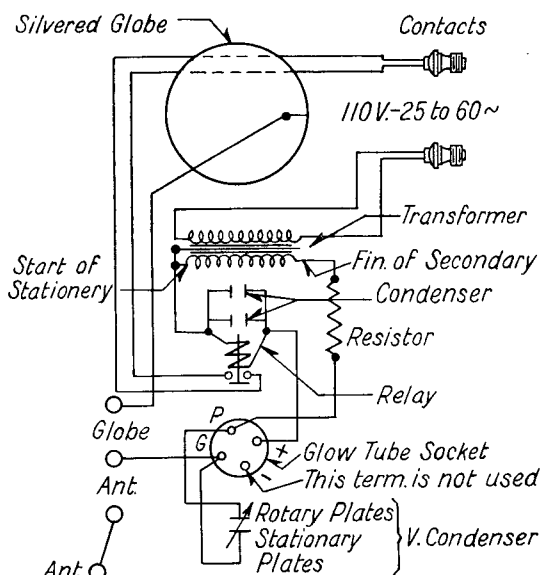

Fig. 3—Wiring Diagram for S# 557544
1. Place connecting link to "Globe" position as shown in Figs. 3 and 4.
1. Place connecting link in "ANT" position as shown in Figs. 3 and 4.
2. There may be an open circuit in which case the wiring should be carefully checked with the diagram in Figs. 3 or 4.